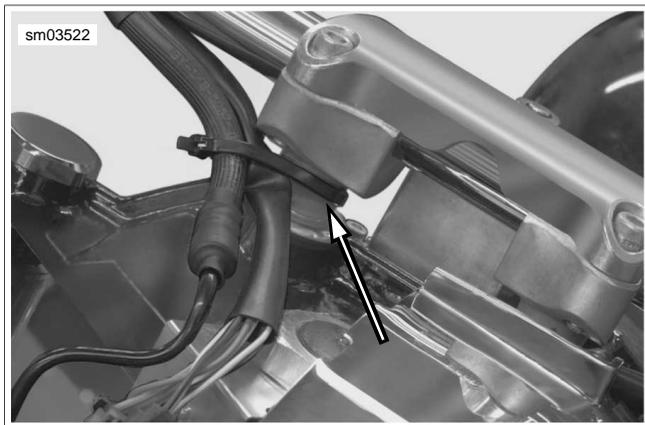

Figure 2-45. Capture Brake Hose and Right Handlebar Riser (FLHR/C)
- b. Cut cable strap to release right handlebar switch conduit and brake hose from right handlebar riser. See Figure 2-45.
- a. Install **new** cable strap to secure right handlebar switch conduit and brake hose to right handlebar riser. See Figure 2-45.